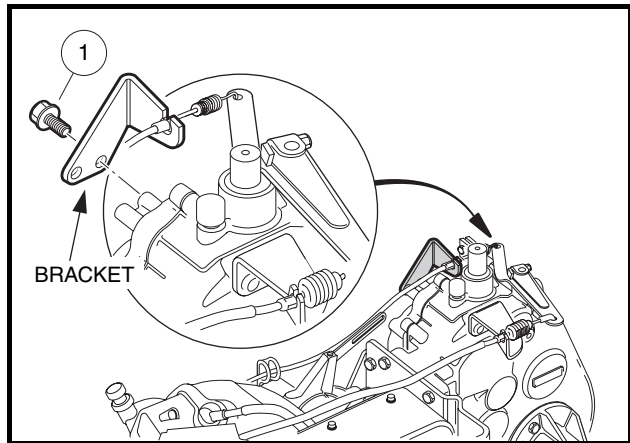

Figure 16-33 Accelerator Cable Bracket
20. Remove screws (1) securing the accelerator cable bracket to transaxle (**Figure 16-33, Page 16-14**).
6. Install the accelerator cable bracket on transaxle case. Tighten the mounting screws to 134 in-lb (15.1 N·m) (**Figure 16-33, Page 16-14**).